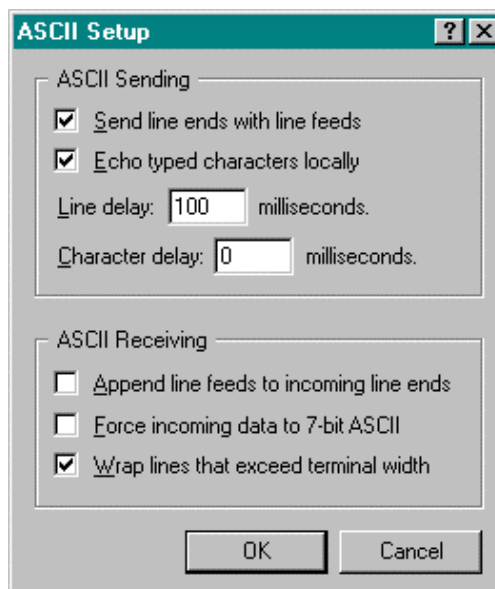

Figure A-3. ASCII Setup Dialog Box
- b. Click the ASCII Setup button. Make the following selections using Figure A-3 as a guide.